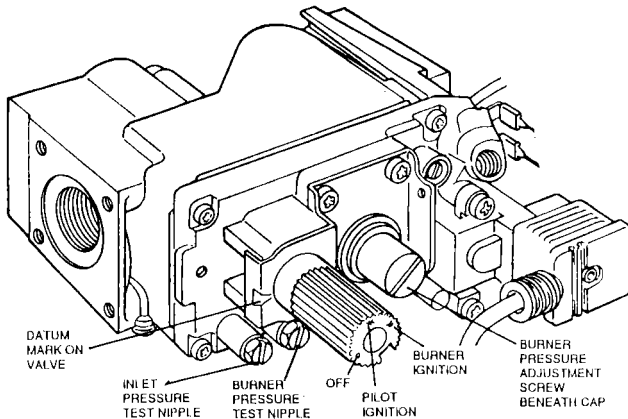
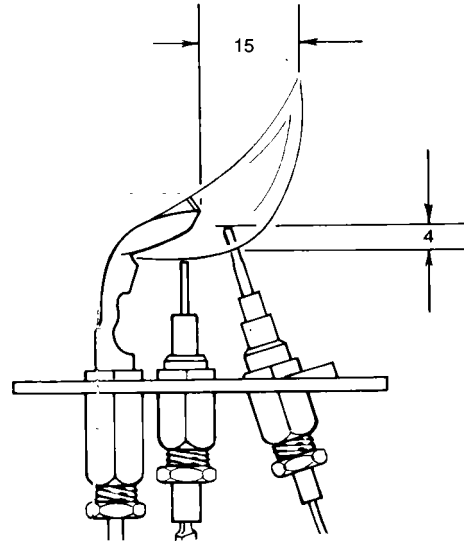

Figure 25 GAS CONTROL VALVE
Figure 26 PILOT BURNER
- F. Partly depress and turn the gas control knob clockwise ensuring the symbol ● lines up with the datum mark on the gas valve body. See Fig 25. This ensures that the valve is in the 'OFF' condition.
- A. Remove the screw from the burner pressure test nipple on the gas control valve and fit a pressure gauge to the test nipple. See Fig 25.
- C. If burner pressure adjustment is necessary, remove the screwed cap from the gas control valve, see Fig 25 , and turn the screw beneath clockwise to increase pressure and anti-clockwise to reduce pressure.
The pilot burner pressure is non-adjustable. The pilot flame should heat the thermocouple so that the pilot safety device is “held in” but must not cause the thermocouple to glow bright red. Fig 26 illustrates the approximate size of a correct flame. The E.M.F. generated by the thermocouple should be of the order of 20-30 mV open circuit, 10-14 mV closed circuit. Due to the voltage drop in the overheat thermostat circuit there should be 6.5-8.5 mV closed circuit at the connection to the gas control valve. Drop out should occur between 1-3 mV closed circuit. If these conditions cannot be achieved check that the inlet pressure is 20 mbar. See Fig 25 for inlet test nipple position. If this is correct contact Potterton Myson.